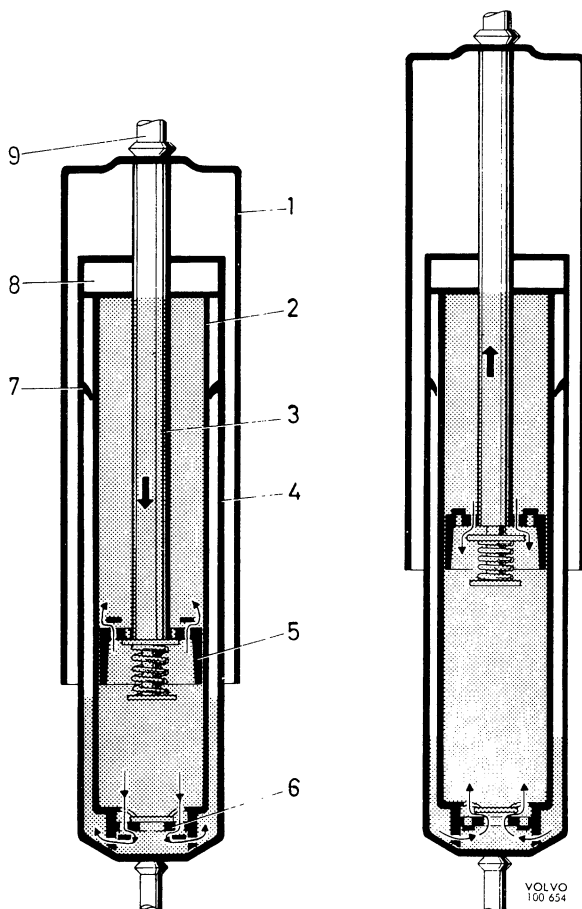

Fig. 7-5. Shock absorber, function
The construction of the shock absorbers is shown in Fig. 7-5. The outer cylinder (1) serves only as a protection against dust and dirt. The other two cylinders (2 and 4) are concentrically arranged, one inside the other. The inner cylinder (2) is the actual working cylinder, the lower end of which is provided with a valve (6). Inside the inner cylinder there is a piston (5) in which holes are drilled, the flow of oil through these holes being controlled by valves.